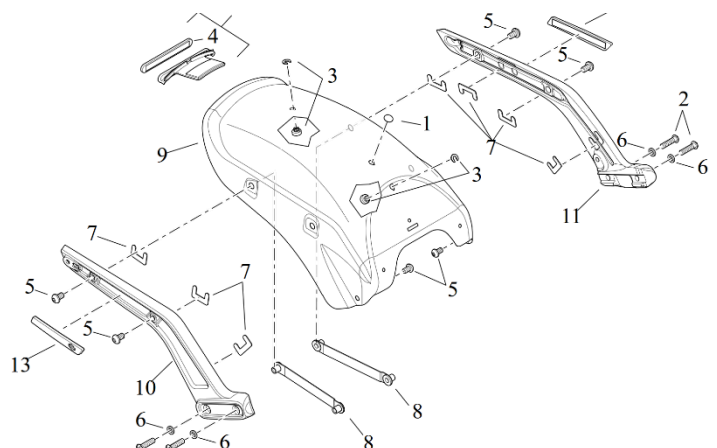

Abb.3
1. loosen the original rear screws (5, fig.3) and replace them with the screws supplied (1). these are not screwed in all the way, so that they protrude about 4-5mm from the original mounting plate (8).
3. The screws (1) are now tightened.
4. screw the licence plate holder from the inside with washer (2) and hexagon nut (3).